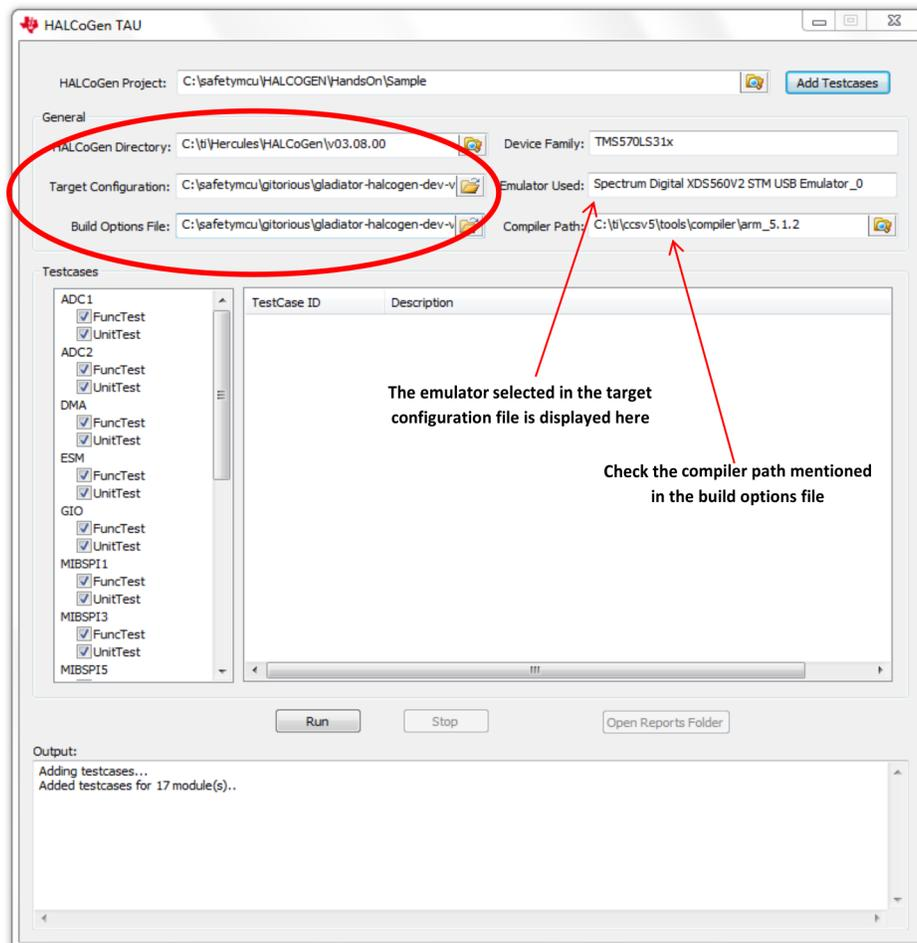

Figure 8. Target and Build Option Selection
5. Browse for the HALCoGen directory, target configuration file and build options file (see Figure 8). Click here to know more about target configuration file and build options file. (Sample target configurations files and the build options file are provided in the <install_dir> \TargetConfiguration and <install_dir> \BuildOptions folders, respectively).